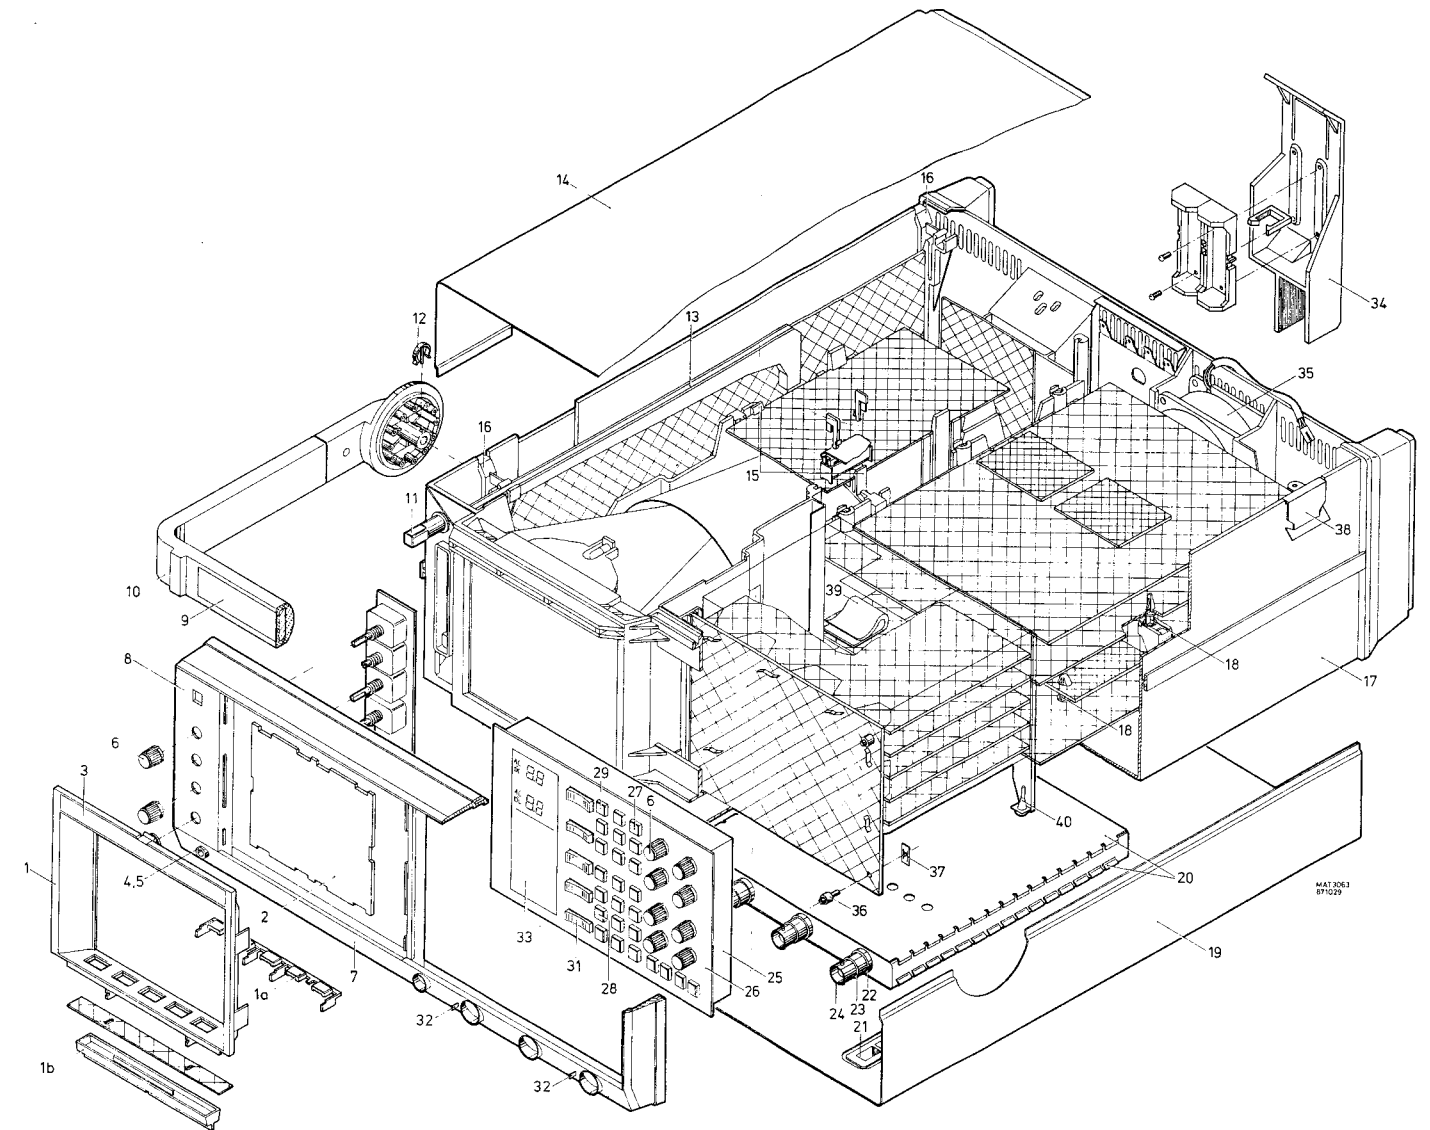

Figure 25.1 Exploded view
25.1.1 Mechanical parts indicated in figure 25.1.